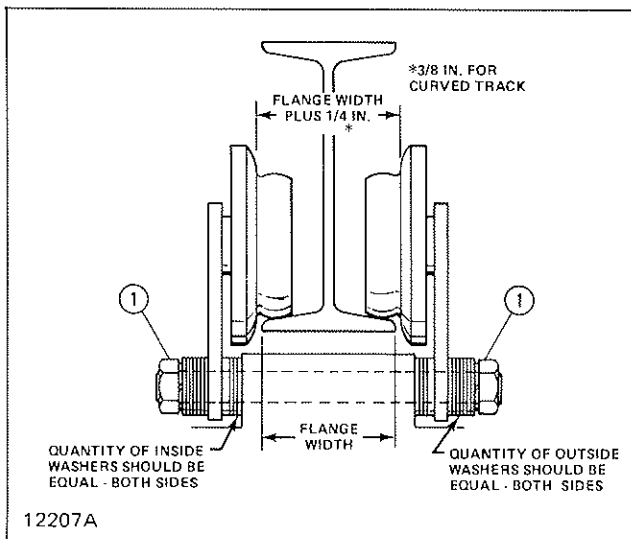

Figure 2. Proper Wheel Spacing.
2. Determine proper spacing for trolley side plates so that adequate wheel clearance (approximately 1/8") is provided on both sides of I-beam, between inside faces of wheel flanges and edges of bottom beam flange. Proper spacing is obtained by varying the number of spacer washers (furnished with trolley) installed on suspension cross pins between suspension lug and trolley side plates (Figure 2).
a. First measure the exact width of bottom flange on runway beam, and then add 1/4" to that measurement (3/8" for curved beam). The total is the required distance between inside faces of wheel flanges to obtain satisfactory wheel operating clearance. See Figure 2.
e. When wheel spacing is correct, remaining spacer washers are to be installed on outside ends of suspension pins (see note below) and the pins then secured with lockwashers and hex nuts. The nuts (1, Figure 2) should not be completely tightened until after hoist and trolley are mounted on runway beam.
b. If trolley cannot be slid over end of beam, remove hex nuts (1, Figure 2), lockwashers and outer spacer washers from pins on one side of trolley. Spread or re-
After trolley has been installed on beam, make sure suitable stop(s) is secured on open ended beams to prevent trolley from rolling off the beam (stops should contact trolley side plates, not wheels). Make certain that all spacer washers and lockwashers are in place on suspension pins and that hex nuts are tight. Recheck clearance dimensions between wheel flanges and beam flanges (Figure 2).